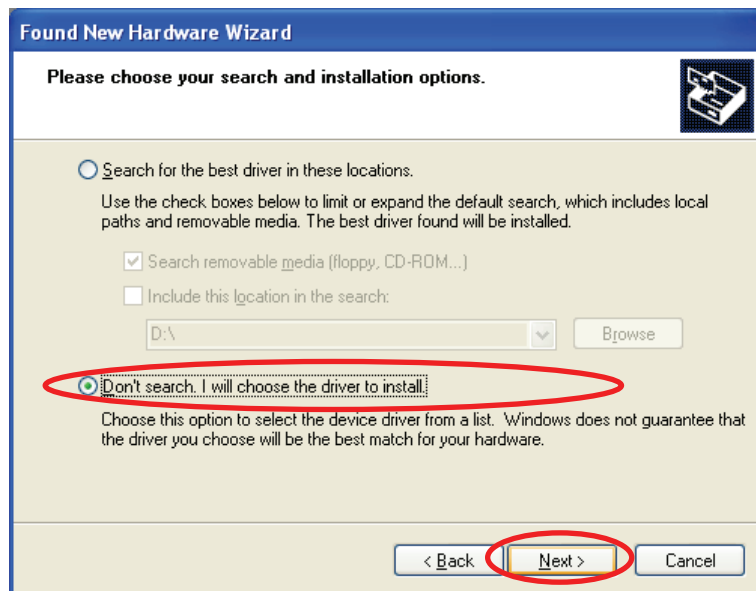

Fig. 2.13: Windows XP driver installation - step 2
- Click on "Next" to confirm this dialog (see Fig. 2.13).